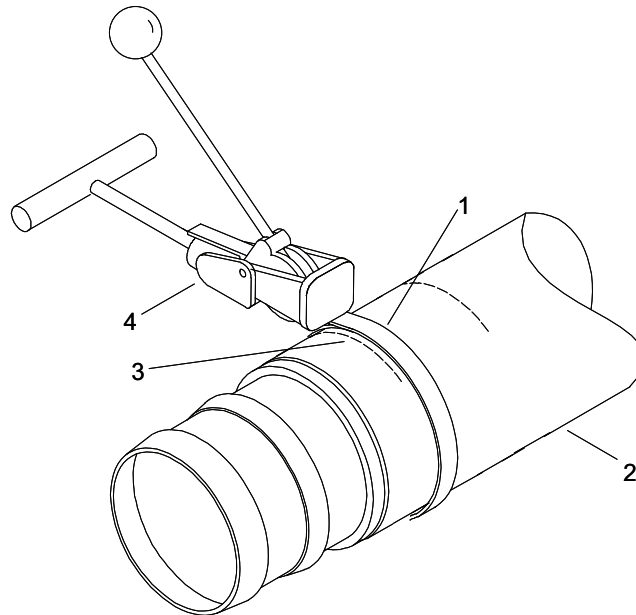

Figure 24. Hose Assembly Repair.
13. Position the first clamp (Figure 24, Item 1) on the hose assembly (Figure 24, Item 2) until it is aligned with the first mark (Figure 24, Item 3) previously made on the hose assembly (Figure 24, Item 2).
15. Using clamping tool (Figure 24, Item 3), tighten the clamp (Figure 24, Item 1) until almost flush with the hose assembly (Figure 24, Item 2) surface.
16. Tighten clamp (Figure 24, Item 1) until the clamp (Figure 24, Item 1) cannot be tightened by hand any further.